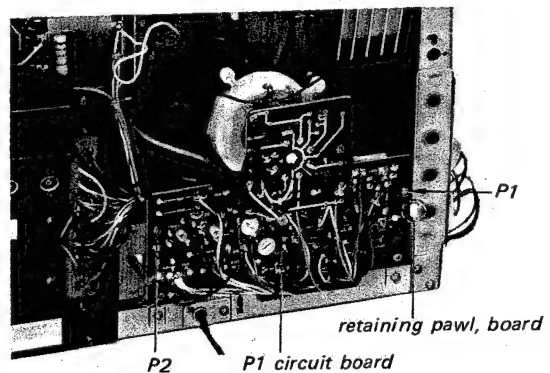

Fig. 2-20.
1. Remove the two screws labeled P1~2 in Fig. 2-20.